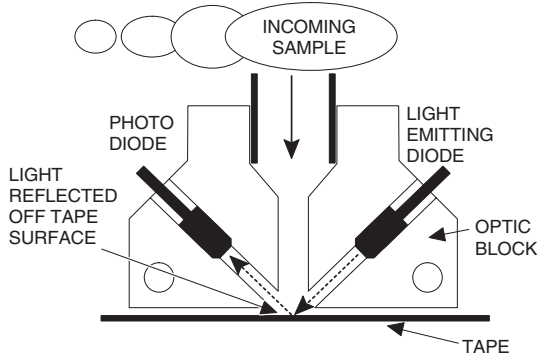

Figure 3-1. Sampling Sequence
3.1.3 TAPE REFERENCE MEASUREMENT. At the start of each sample period, the tape spot being used is scanned by the light pulse (generated by the optics system), see Figure 3-1. The value of the reflected light is measured and stored as the reference against which the light value, during and at the end of the sample period, is assessed..